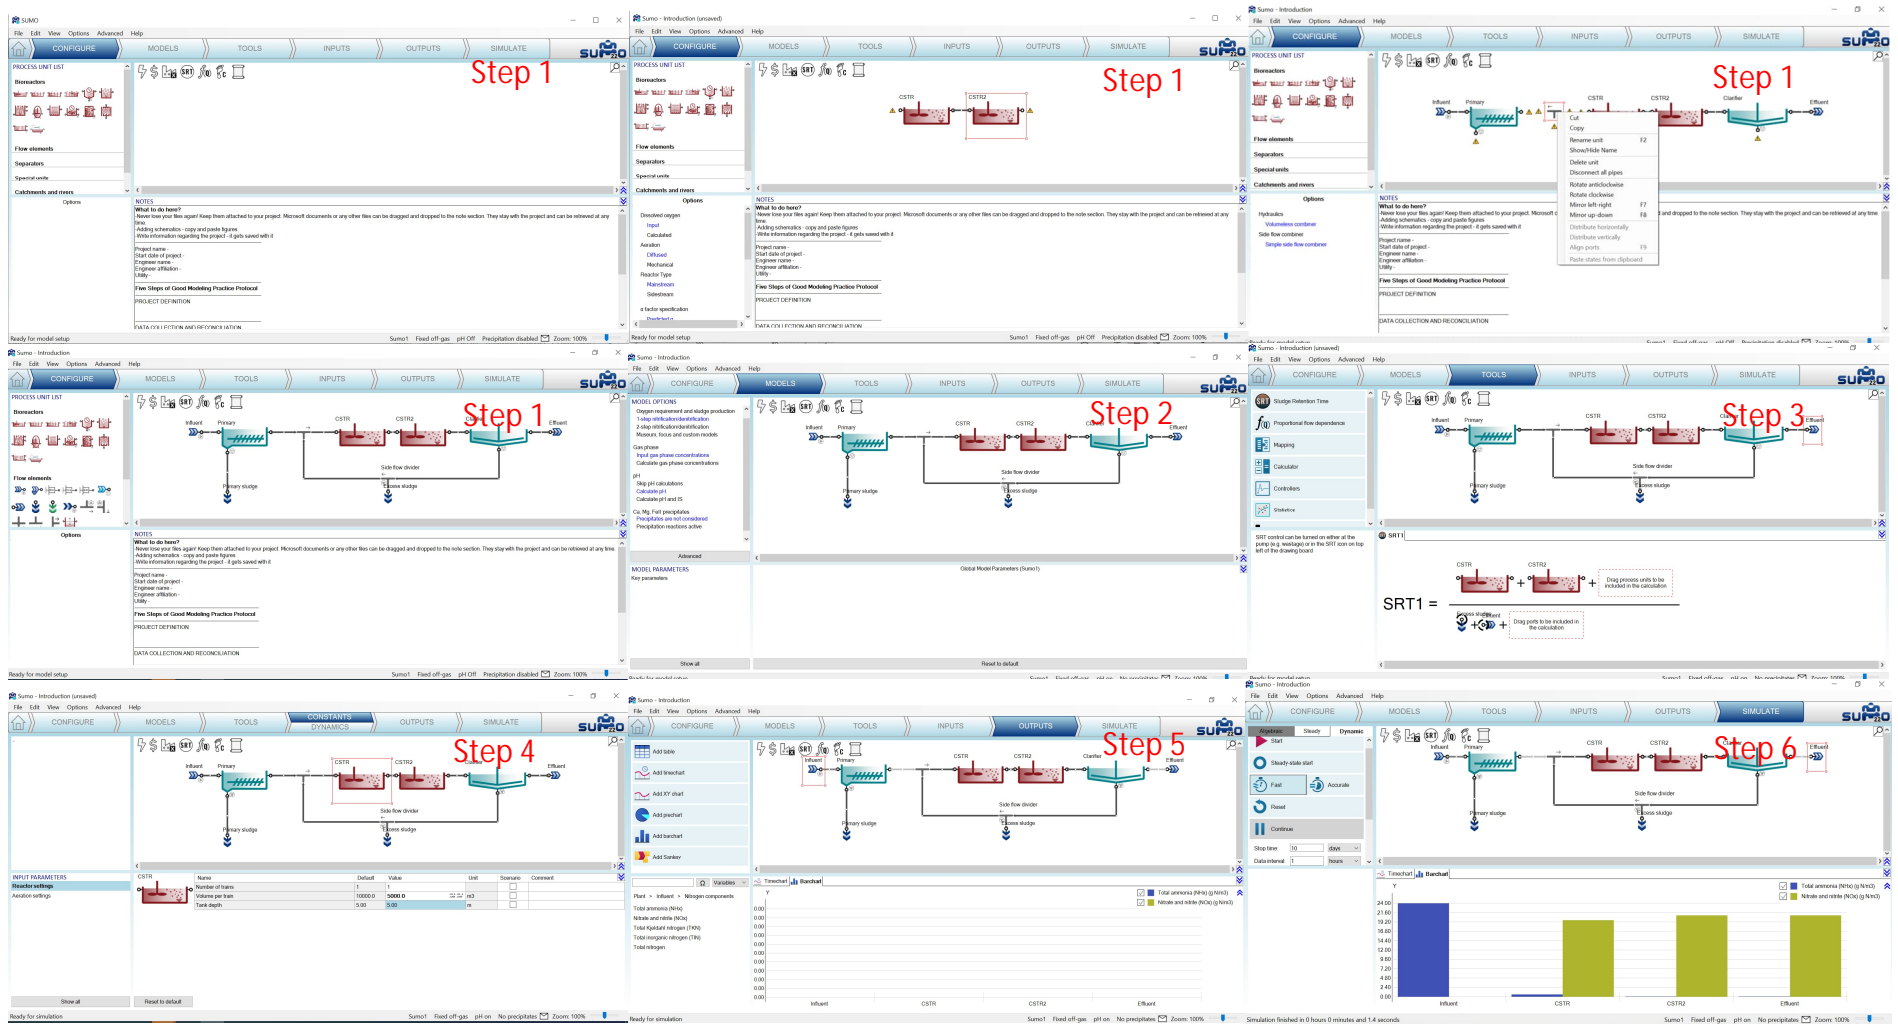

Figure 1. Steps involved in MODEL1 – Exercise
The purpose of this exercise is to familiarize users with the SUMO software through a simple example. Users will learn to use the basic functionality of SUMO: simulate oxygen uptake rates and concentrations of ordinary heterotrophs in a simple plant. Steps to follow (also please refer to Figure 1, to see the steps described below:
Select process units from the PROCESS UNIT LIST and configure a model, (hover your mouse over the units to see labels). Selected process units are placed on the drawing board by clicking on the unit, dragging and dropping on the drawing board. The configuration to be built can be seen in Fig. 1. A selected process unit can be renamed by pressing F2 or choosing the 'Rename' option in the right click unit context menu.
4. Customizing the model: Click the "INPUTS" tab and select "CONSTANTS". Selecting input and/or initial conditions: change the volume of the two reactors from 10,000 to 5000 m3 while keeping the rest as default. The reactor volume can be changed by selecting the reactor and changing the "Volume" in the "Reactor settings" group under the "INPUT PARAMETERS" panel (bottom left panel). For illustration check Fig. 1.